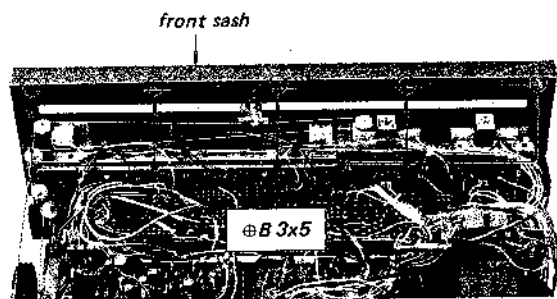

Fig. 2-5. Dial glass removal
2. Remove the five screws shown in Fig. 2-5.